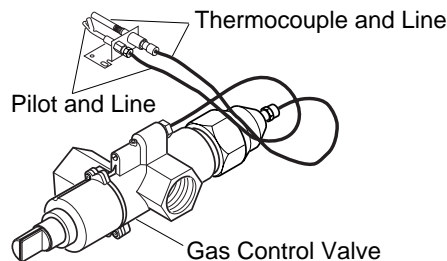

Figure 12 - Gas Control Valve with Thermocouple and Pilot
2. Attach the pilot gas line to the pilot outlet of the gas control valve and tighten. Connect the thermocouple to the rear of the gas control valve (see Figure 12). Do not overtighten (finger-tight plus 1/4 turn). If using propane/LP gas, see *Changing Pilot Orifice*, page 11.